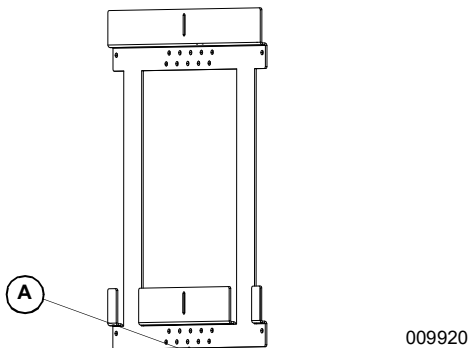

Figure 5. Wall Bracket
- See **Figure 5**. Bottom edge (A) is 29-5/8 in (752 mm) off the floor for installations that are not elevated. See the following procedure for elevated installation.